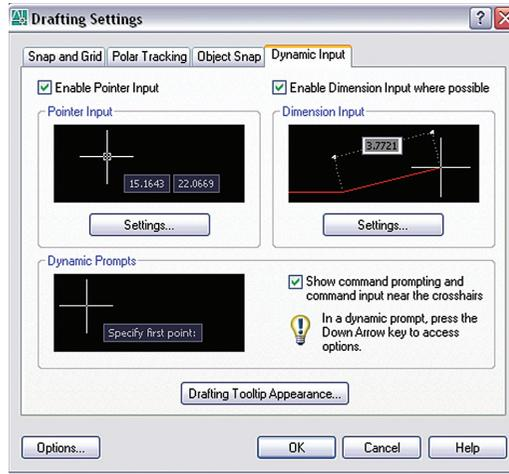

Figure 1. Click to enable point input and dynamic prompts, so that your command line follows your cursor.
3. To display the command line input and prompts from the cursor, make sure that "Show command prompting" and "Enable Pointer Input" are toggled ON (Figure 1).